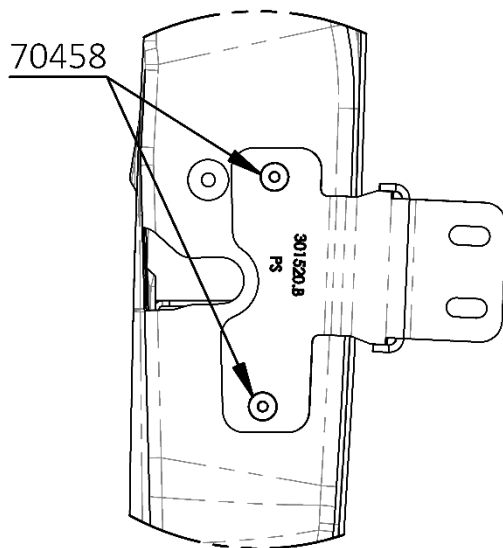

Figure 7: Inner Bracket Installed
14. Install the inner door bracket (350697) as shown in Figure 7 using the provided two countersunk M6-1.0 X 16mm bolts (70458).